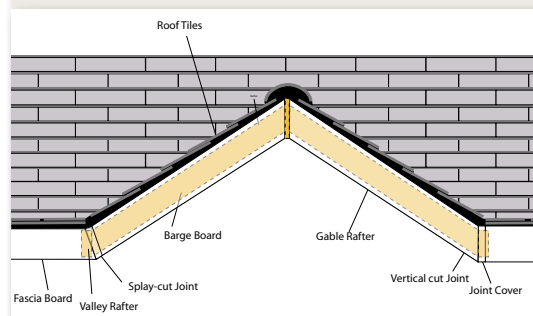

Fig. 23a Junction of fascia with In-line gable.
**Figures 23a & 23b** also shows two possible alternatives for the junction between gable bargeboards and fascias. On the left, the use of fascia and bargeboard of equal thickness results in a cut bisecting the angle of the junction, with the joint cover set at the same angle. On the right, the joint is made vertically. In this case, the bargeboard is narrower than the fascia and is cut to the required size.